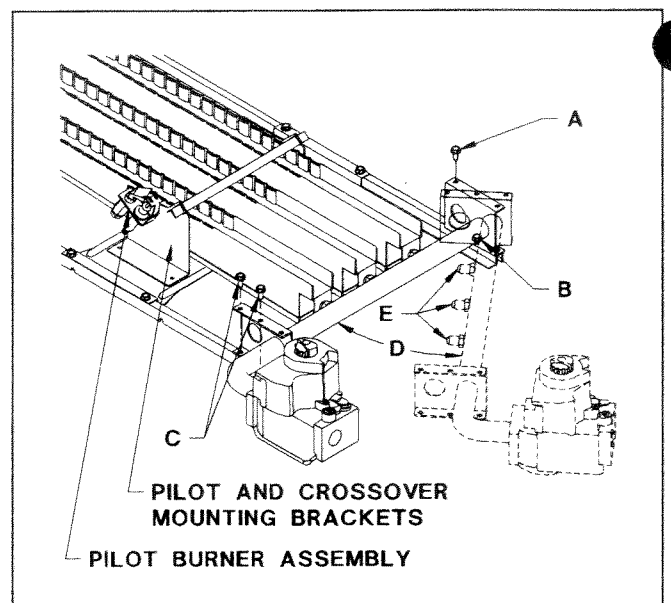

Figure 32. Changing Orifices.
11. From side of burner rack opposite gas control, remove one sheet metal screw as shown in "A" in Figure 32. Save screw for reinstallation.
12. Loosen burner rack screw one turn, as shown in "B" in Figure 32.
13. From gas control side of burner rack, remove two screws from manifold bracket as shown in "C" in Figure 32. Save screws for reinstallation.
14. Pivot manifold away from burners as shown in "D" in Figure 32.
15. Remove original gas orifices, illustrated as "E" in Figure 32.
17. Slowly return manifold to its place by sliding each burner over its orifice. Replace two screws as shown in "C", Figure 32, and one screw as shown in "A", Figure 32.